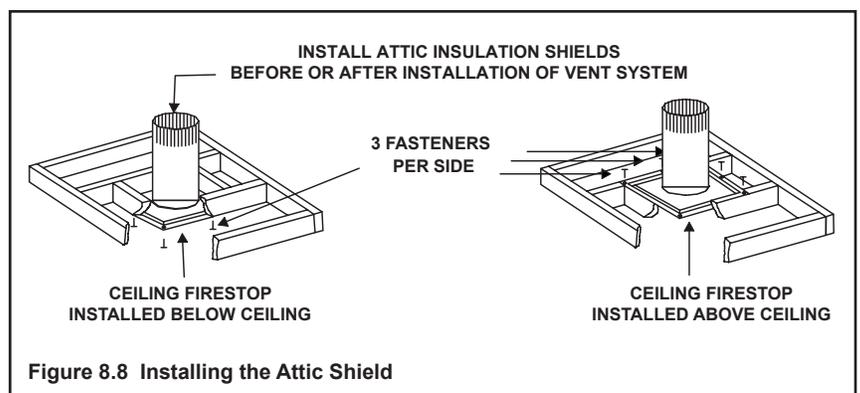

Figure 8.8 Installing the Attic Shield
- The ceiling firestop may be installed above or below the ceiling joists when installed with a attic insulation shield. It must be under joists between floors that are not insulated. Refer to Figure 8.8.